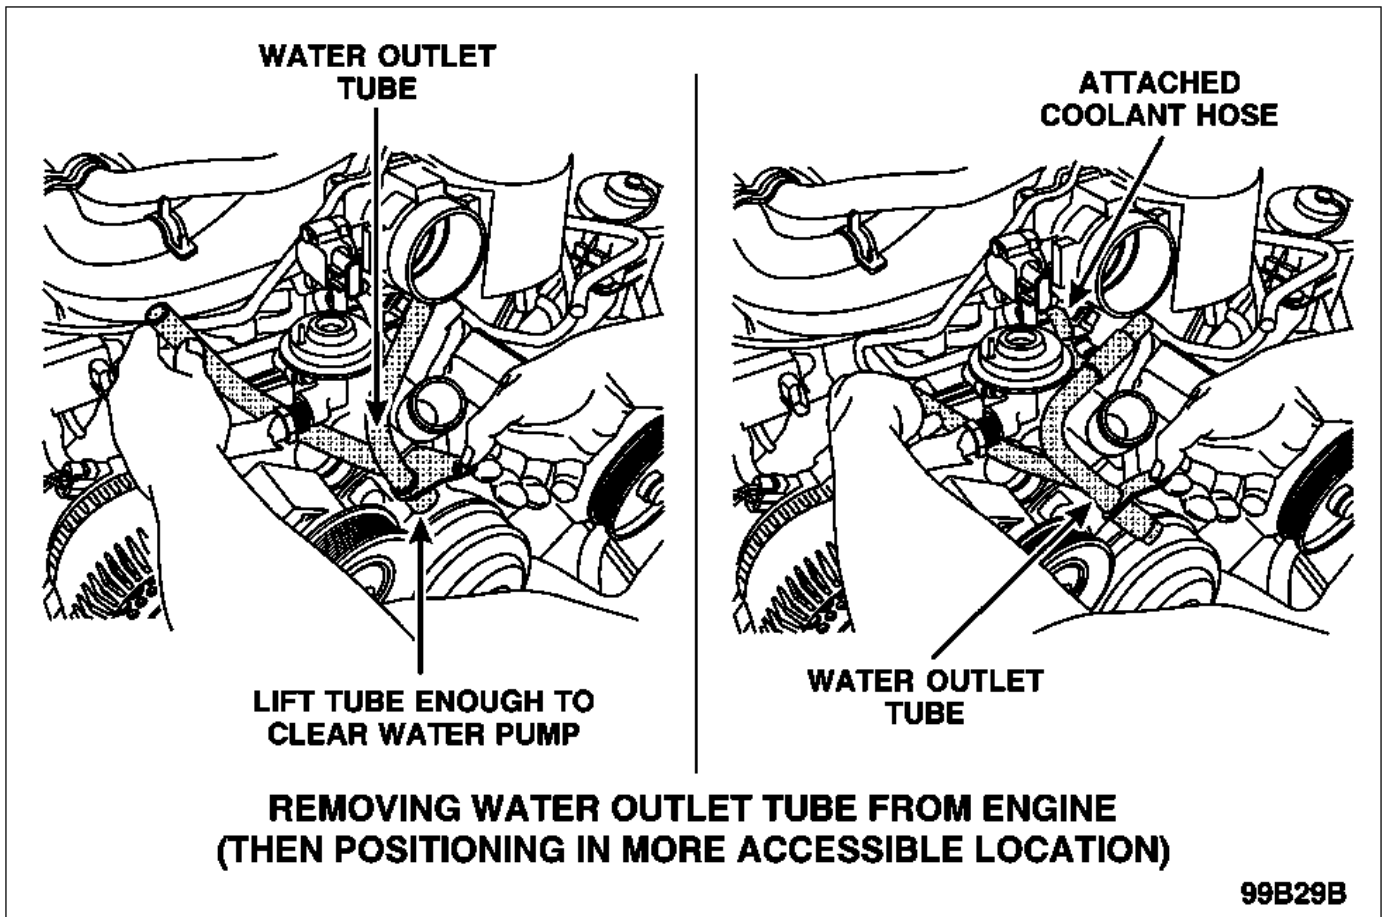

FIGURE 2
22. Reposition the water outlet tube to access the remaining coolant hose. See Figure 2.